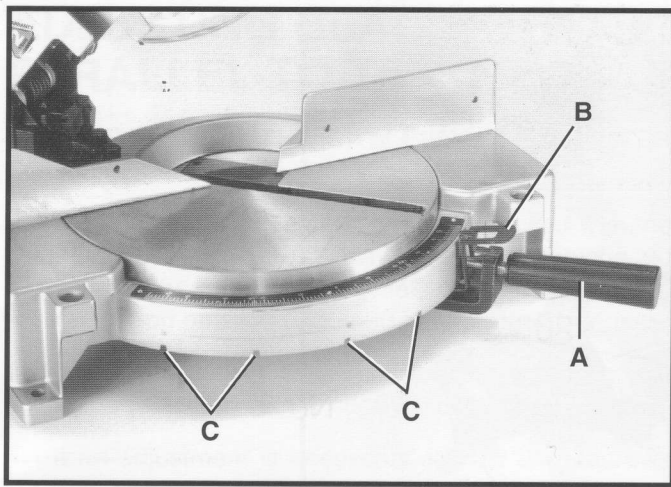

Fig. 15
Your miter saw will cut any angle from a straight 90 degree cut to 47 degrees right and left. Simply loosen lock handle (A) Fig. 15, one or two turns, depress index lever (B) and move the control arm to the desired angle. **THEN TIGHTEN LOCK HANDLE (A).**
The miter saw is equipped with positive stops at the 0, 22-1/2, and 45 degree right and left positions. Simply loosen lock handle (A) Fig. 15, and move the control arm until the bottom of the index lever (B) engages into one of the positive stops, four of which are shown at (C). **THEN TIGHTEN LOCK HANDLE (A).** To disengage the positive stop, depress index lever (B).